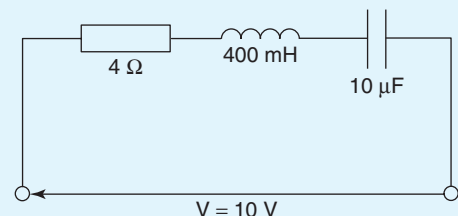

Figure 15.27
18. For the circuit shown in Fig. 15.27, the value of Q -factor is: